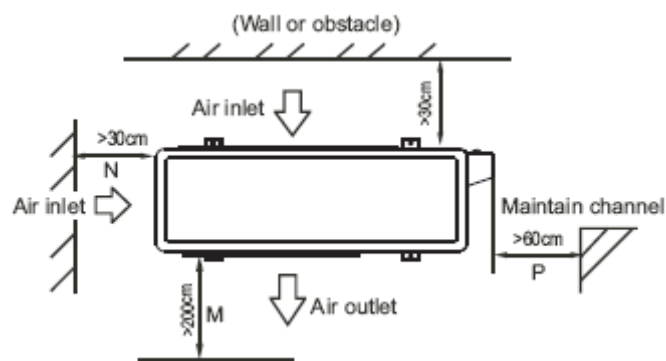

Fig.5-5
- The minimum distance between the outdoor unit and obstacles described in the installation chart does not mean that the same is applicable to the situation of an airtight room. Leave open two of the three directions (M, N, P) (refer to Fig.5-5)